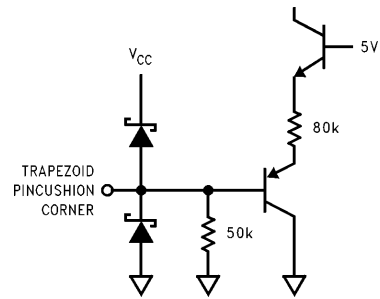

FIGURE 11
**Pin 8. TRAPEZOID:** A 0V to 4V DC voltage applied to this pin adjusts the polarity and the amount of linear sawtooth component (Trapezoid Correction) in the E-W OUT output. At approximately 2V, the amount is zero. A voltage above 2V sets a negative-sloped sawtooth output, increasing the voltage increases the sawtooth amplitude. A voltage below 2V sets a positive-sloped sawtooth output, decreasing the voltage increases the sawtooth amplitude. See *Figure 11* for the input schematic.
**Pin 9. CORNER:** A 0V to 4V DC voltage applied to this pin adjusts the polarity and the amount of 4th order parabolic component (Corner Correction) in the E-W OUT output. At approximately 2V, the amount is zero. A voltage above 2V sets a concave down 4th order output, increasing the voltage increases the 4th order amplitude. A voltage below 2V sets a concave up 4th order output, decreasing the voltage increases the 4th order amplitude. See *Figure 11* for the input schematic.
**Pin 10. PINCUSHION:** A 0V to 4V DC voltage applied to this pin adjusts the polarity and the amount of 2nd order parabolic component (Pincushion Correction) in the E-W OUT output. At approximately 2V, the amount is zero. A voltage above 2V sets a concave down 2nd order output, increasing the voltage increases the 2nd order amplitude. A voltage below 2V sets a concave up 2nd order output, decreasing the voltage increases the 2nd order amplitude. See *Figure 11* for the input schematic.